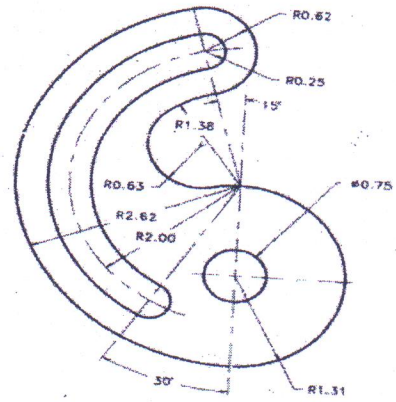

Fig. 4
Q. 4 a) Write the AutoLISP programme required for completion of the sketch given in the following Fig. 4. Minimum inputs from user at the start of the programme are compulsory. Elaborations for the important stage or command in the programming is must. Assume starting point, suitable data, required dim..... etc. wherever necessary.